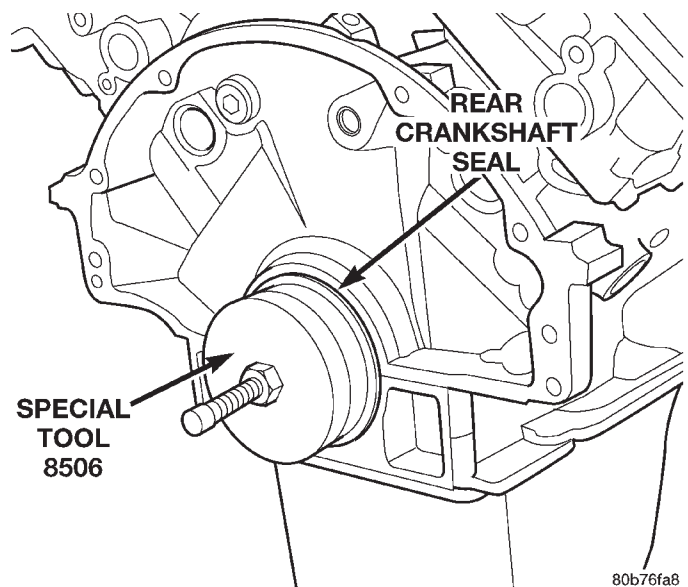

Fig. 112 Crankshaft Rear Oil Seal Removal
(3) Using Special Tool 8506 (Fig. 112), remove the crankshaft rear oil seal.